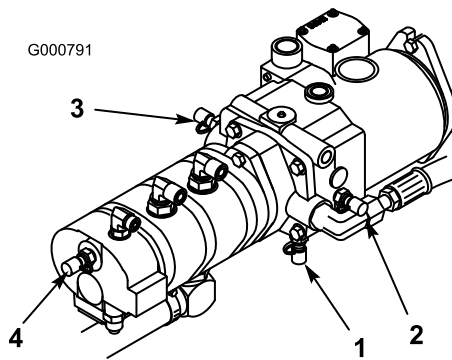

Figure 79
4. Test Port D is located on the bottom of the hydrostatic transmission (Figure 79) and is used to measure the charge pressure of the transmission.
5. Test Port E is used to measure traction forward pressure (Figure 79).
6. Test Port F is used to measure traction reverse pressure (Figure 79).
7. Test Port G is used to measure steering circuit pressure (Figure 79).